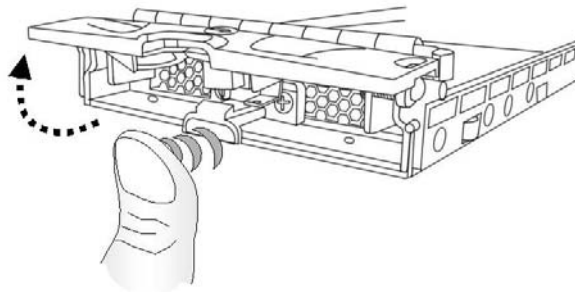
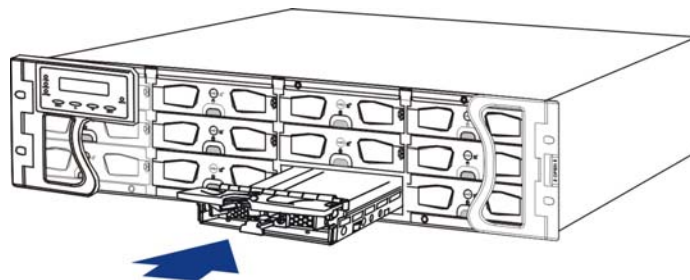

Figure 2-6: Opening Drive Tray Front Flap
Figure 2-7: Installing a Drive Tray
-  Step 2. **Open the front flap on the drive tray.** (See *Figure 2-6*). To open the flap, push the release button (shown in *Figure 2-7*) on the front bezel. The front flap will open in an upward direction.